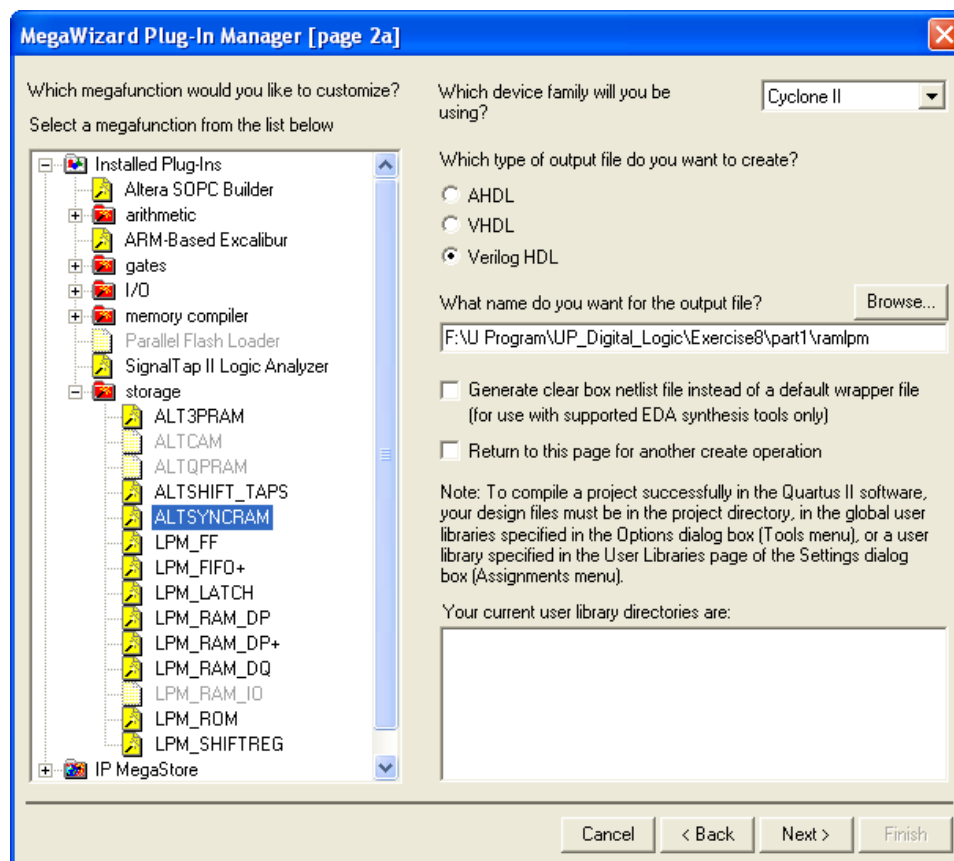
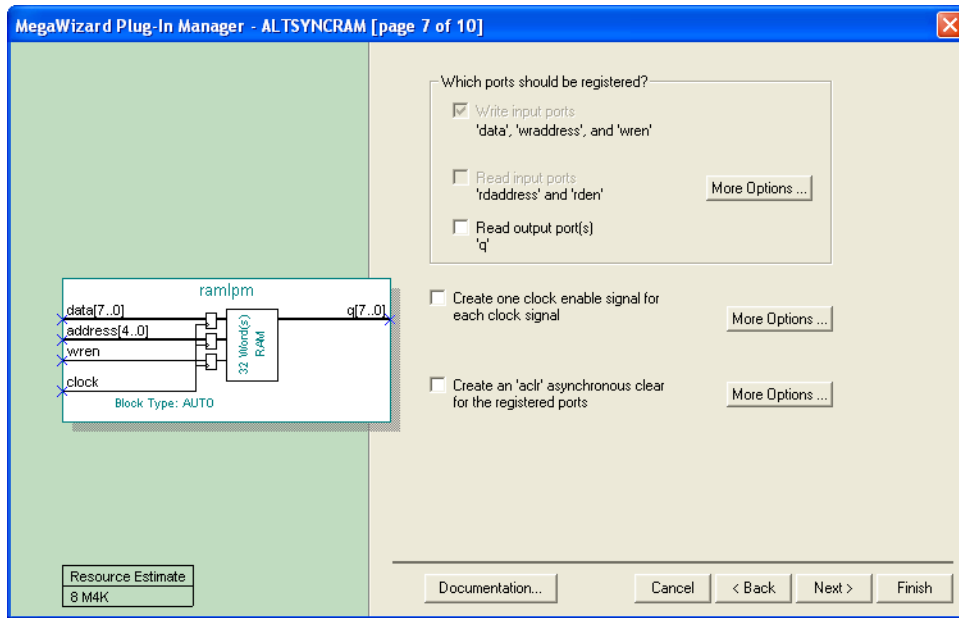

Figure 2. Choosing the *altsyncram* LPM.
Figure 3. Configuring input and output ports on the *altsyncram* LPM.
2. You can learn how the MegaWizard Plug-in Manager is used to generate a desired LPM module by reading the tutorial *Using Library Modules in Verilog Designs*. This tutorial is provided in the University Program section of Altera's web site. In the first screen of the MegaWizard Plug-in Manager choose the *altsyncram* LPM, which is found under the **storage** category. As indicated in Figure 2, select **Verilog HDL** as the type of output file to create, and give the file the name *ramlpm.v*. On the next page of the Wizard specify a memory size of **32 eight-bit words**, and select **M4K as the type of RAM block**. Advance to the subsequent page and accept the default settings to use **a single clock for the RAM's registers**, and then advance again to the page shown in Figure 3. On this page *deselect* the setting called Read output port(s) under the category Which ports should be registered?. This setting creates a RAM module that matches the structure in Figure 1b, **with registered input ports and unregistered output ports**. Accept defaults for the rest of the settings in the Wizard, and then instantiate in your top-level Verilog file the module generated in *ramlpm.v*. Include appropriate input and output signals in your Verilog code for the memory ports given in Figure 1b.